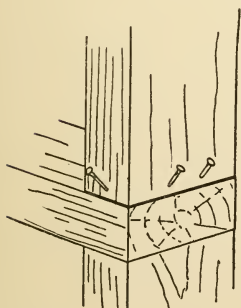

FIG. 31.—Toe-nailing.
**Toe-nailing** consists in driving nails diagonally into a piece of wood. It is used in fastening the ends of uprights, as shown in Fig. 31, where the nails cannot be driven in any other way, and also where there is danger of a board springing. You